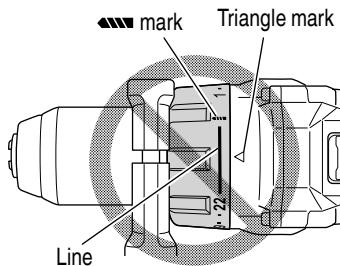

Fig. 16
- (1) When using this unit as a screwdriver, line up the one of the numbers "1, 4, 7 ... 22" on the clutch dial, or the dot, with the triangle mark on the outer body.
- (2) When using this unit as a drill, line up the clutch dial drill mark "■■■" with the triangle mark on the outer body.
- Do not use with the clutch dial set at the line between the number "22" and the drill mark "■■■". Doing so may cause damage (See Fig. 16).